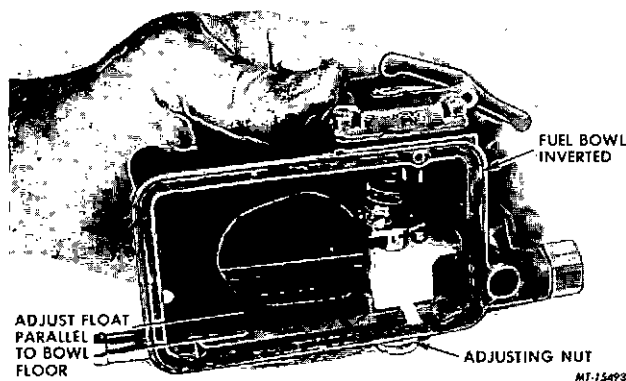

FIG. 41 Preliminary Float Adjustment Externally Adjustable Fuel Inlet Valve — Internally Adjusted Fuel Inlet is Similar
5. Install the fuel inlet needle and seat assembly through the top of the fuel bowl. Then install the adjusting nut gasket. Align the flats of the seat and the adjusting nut and install the nut. Install the lock screw and gasket. Invert the bowl and turn the adjusting nut until top of float is parallel to top of bowl. This preliminary adjustment will run the engine until the fuel level can be properly checked through the sight plug hole after the carburetor has been installed on the engine (Figure 41).
6. Slide the inlet baffle into the grooves (Figure 41).
4. Install float assembly as described under Step 7. To adjust the dry float setting (internally adjusted needle and seat), adjust float parallel to bowl floor as illustrated in (Figure 41). If an adjustment is necessary, carefully bend float tang until proper adjustment has been obtained using care not to nick or damage portion of tang which contacts needle.